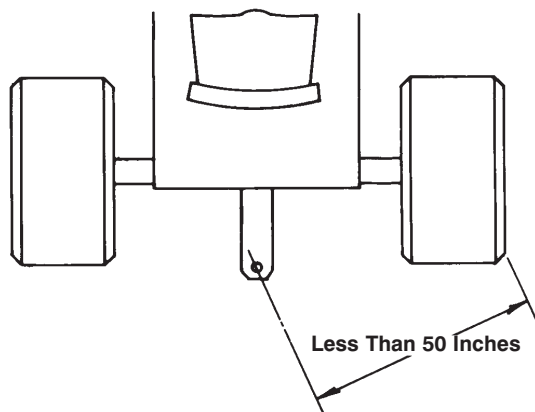

Figure 1
- Adjust tractor drawbar (hitch) so mounting hole is less than 50 inches from outside of rear tractor tire (Fig. 1). This will prevent interference with front cutting unit lift arms.